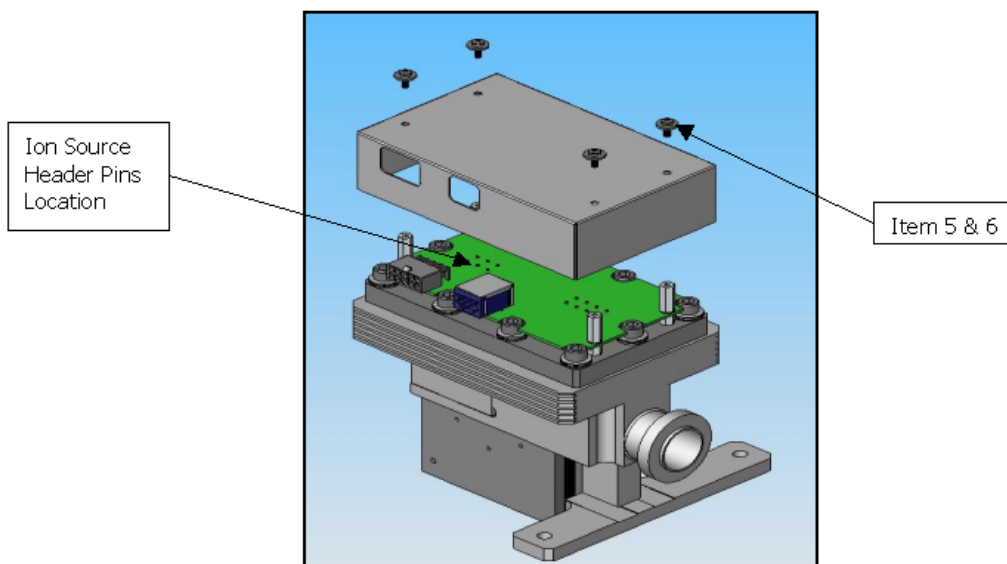

Figure 15: Ion Source Header Pin Locations
32. Place the spectrometer cover over the header and align the holes (Figure 15: Ion Source Header Pin Locations).
33. Install screws and washers (items 5 & 6), then tighten using a M3 Phillips screw driver (Figure 15: Ion Source Header Pin Locations).